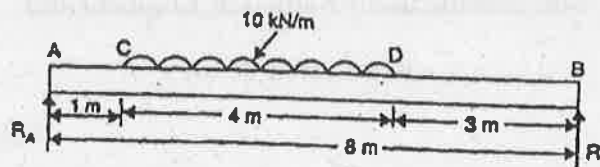

Fig. 12 (a)
12. (a) Draw the shear force and B.M diagrams for a simply supported beam of length 8 m and carrying a uniformly distributed load of 10 kN/m for a distance of 4 m as shown in fig 12 (a).